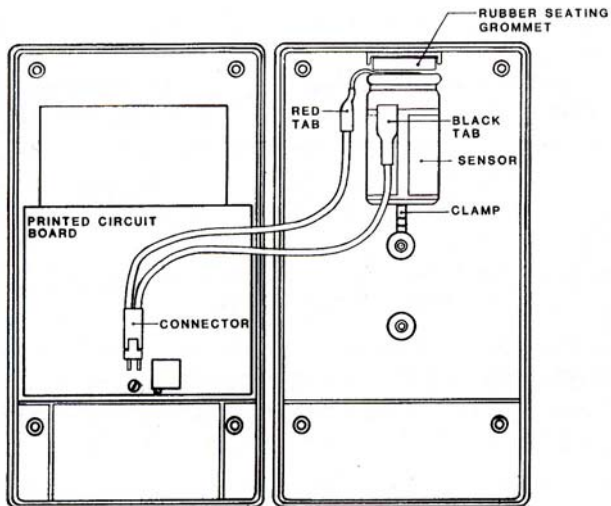

FIGURE 2 Sensor Installation
- 7.4 Insert the new sensor into the clamp. The sensor should be oriented as indicated in Figure 2 and the tip of the sensor must rest inside the hole in the center. Plug the connector into the printed circuit board.